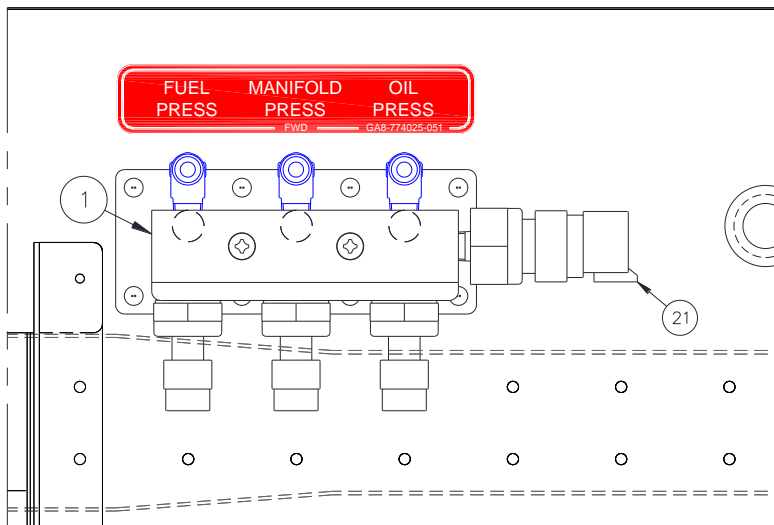

Figure 9: Installation of the pressure switch detailed in Table 6.
Table 6: The Item Number corresponds to GA8-311009 Sheet 1 Issue 1 and Figure 9.
18. Apply Item C3 sparingly to the threads of the pressure switch detailed in Table 6, omitting the first 2 threads, and install the pressure switch into the 1/8"-27 NPT tapped hole in Item 1, as per Figure 9. Ensure that no leaks can occur.